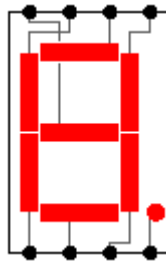
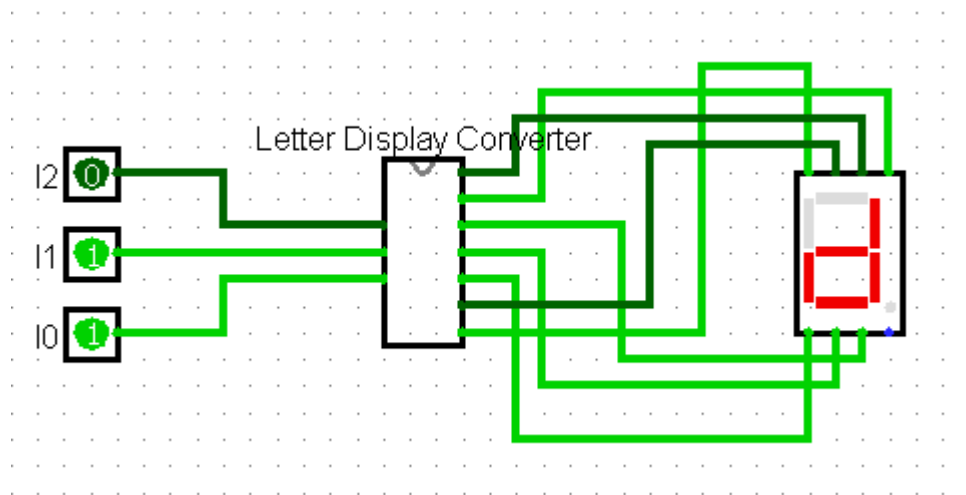

Figure 2. The correspondence of the 7-segment display.
Figure 3. The main circuit.
2.3 **Simulation:** Build this circuit in Logisim as a sub-circuit by selecting Project → Add Circuit and naming it “Letter Display Converter”. In the explorer pane, you can now see that the project contains two circuits called “main” and “Letter Display Converter”. When you finish building your Letter display converter, you can use it as a sub-circuit by clicking on the “main” circuit and clicking the “Letter Display Converter” *once* in the explorer pane to select it as a tool and add it into the canvas of your “main”. To test your circuit, you need a 7-segment display, which can be found under the “Input/Output” library in the explorer pane. The correspondence of the 7-segment display is shown in Figure 2. Your final circuit in “main” should look something like Figure 3. Verify that your designed circuit works correctly and show it to the lab instructor.